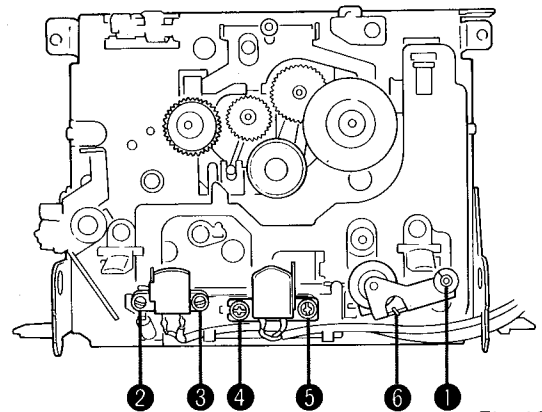

Fig. 12
2. Remove the lock washer 1 in Fig. 12 and remove the actuator of pinch roller spring 6 in Fig. 12 and then pull out the pinch roller.
3. Remove the screws 2 and 3 in Fig. 12 and then remove the erase head.
4. Remove the screws 4 and 5 in Fig. 12 and then remove the record/playback head.
* Be careful not to lose the spring which are attached to the screws 2 and 4 in Fig. 12. Always adjust the azimuth after replacing the record/playback head. (Refer to alignment procedures)